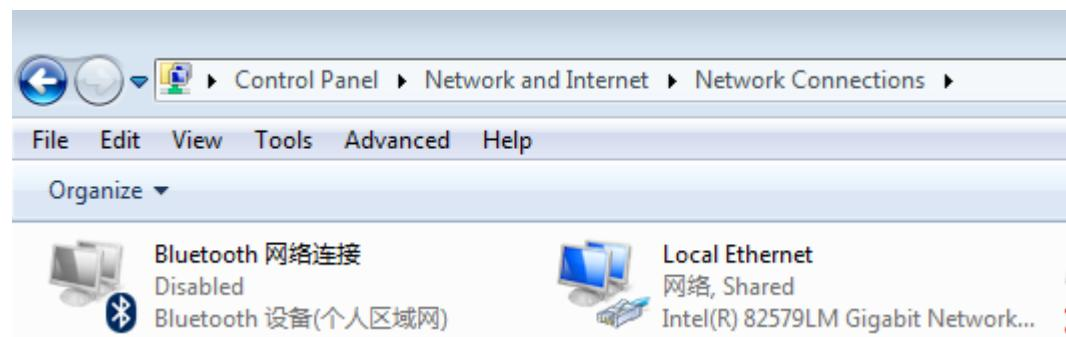

Figure 4-7 Network connection window
Step 1 Click Start>Control Panel>Network and Internet>Network Connections, as shown in Figure 4-7.